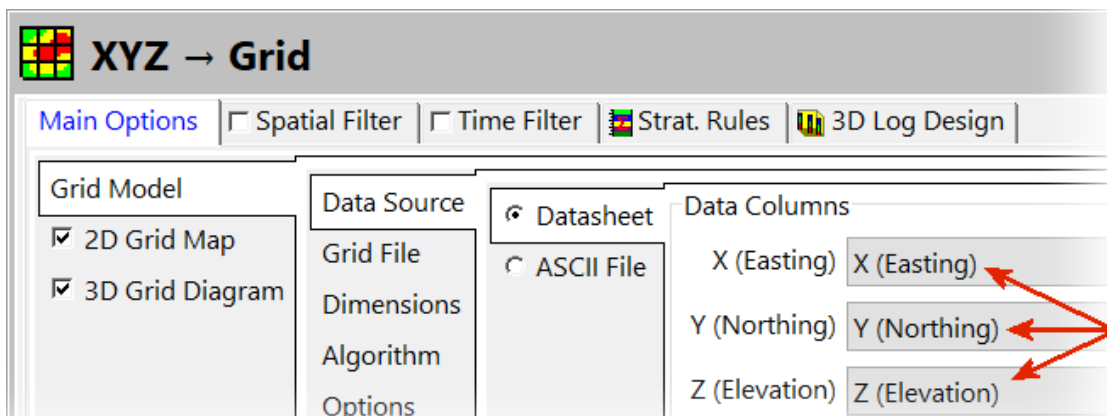

Figure 9
- Set the X, Y, and Z *Data Columns* (Figure 9) to read from the columns within the *Datasheet* that we imported from Google Earth.